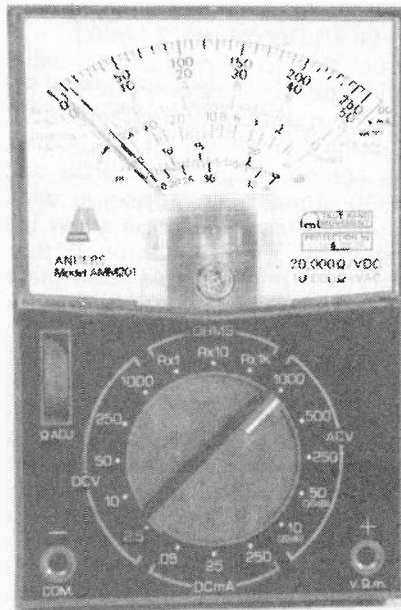
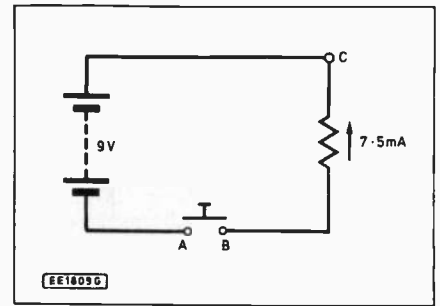

Fig. 5.5. Typical multimeter.
Fig. 5.6. Test circuit.
1. Which range setting (of the meter in Fig. 5.5) would be most appropriate for measuring the current flow through the resistor in the circuit of Fig. 5.6.
3. Which range setting (of the meter in Fig. 5.5) would be most appropriate for measuring the voltage across the resistor in the circuit of Fig.5.6